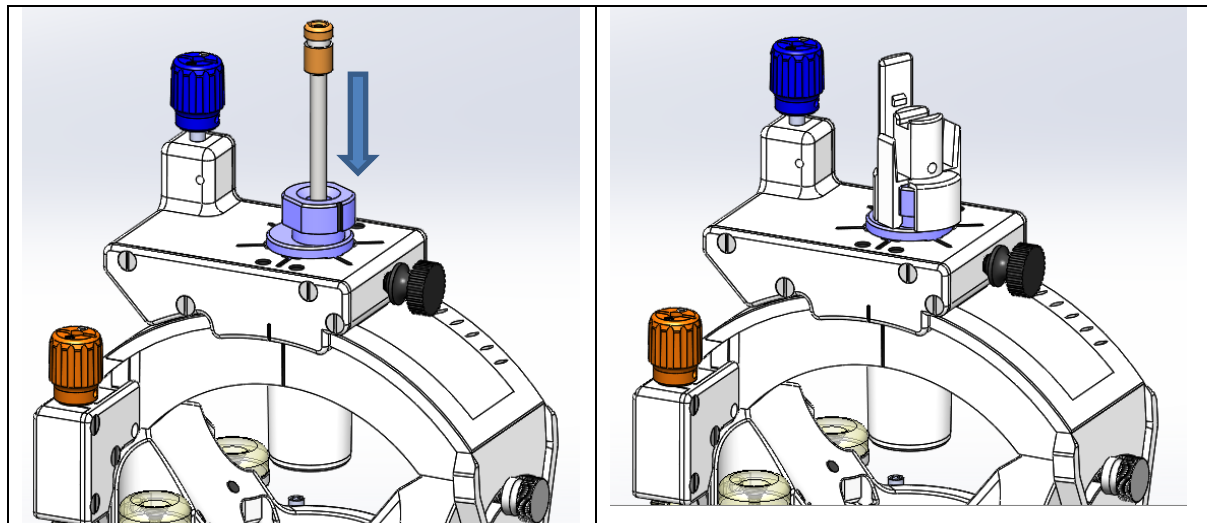

Figure 217: Inserting Guide Tube (Left) and Attaching Dock (Right) to the SMARTFrame Array Tower
3. If necessary, insert the Guide Tube into the Insertion Guide. **See Figure 217 Left.**
4. Insert and snap lock the Dock in place. **See Figure 217 Right.**